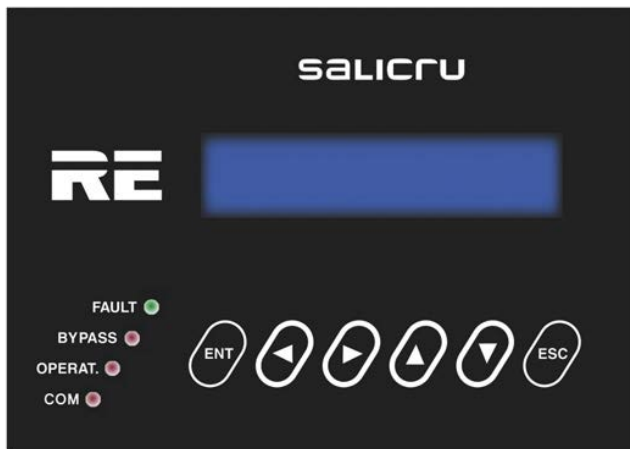

Fig. 1. Control panel with LCD.
(PC) Control panel with LCD (see figure 1).
Led optical indicators (see figure 1).
Figure 1 shows the layout of the led optical indicators included in the control panel with LCD, and they are turned on when their function are activated.